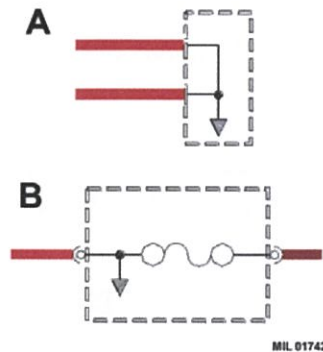

Fig 5 Line types II
17 The “cup and ball” symbol indicates the male and female halves of the connector (refer to Fig 5).
17.1 Plug on lead, fly lead (Fig 5 (A)), wired directly to the component.
17.2 Connector plugs directly into circuit (Fig 5 (B)).